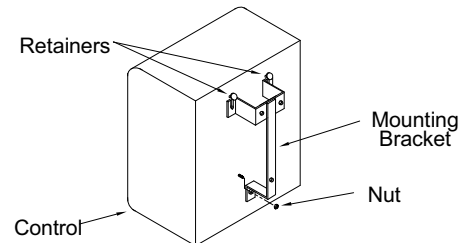

FIGURE 4
5. Secure the manifold control in place by sliding the round retainers on the back of the cabinet into the slots on the bracket. Replace the nut on the bolt which protrudes from the case and tighten lightly. This bolt only stabilizes the bottom of the unit and is not load-bearing. (Figure 4)